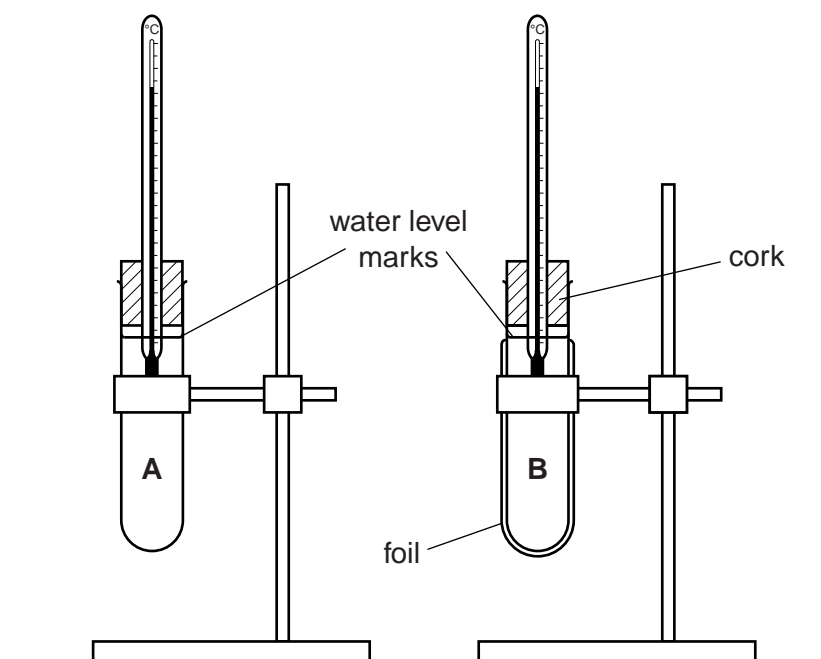

Fig. 2.1
Test-tube **B** should be covered in a layer of aluminium foil, as shown in Fig. 2.1. The shiny side of the foil should be outwards. The indelible mark must just show above the foil.
2. The thermometers must be mounted in the corks as shown in Fig. 2.1. When the test-tubes are filled up to the marks with water, and the corks and thermometers inserted, the thermometer bulbs must be below the water level and the water level must be below the bottom of the cork. Candidates must be able to read temperatures down to approximately 40°C .
3. The apparatus is to be set up as shown in Fig. 2.1, without water in the test-tubes.
Check that the apparatus is intact and arrange as shown in Fig. 2.1.